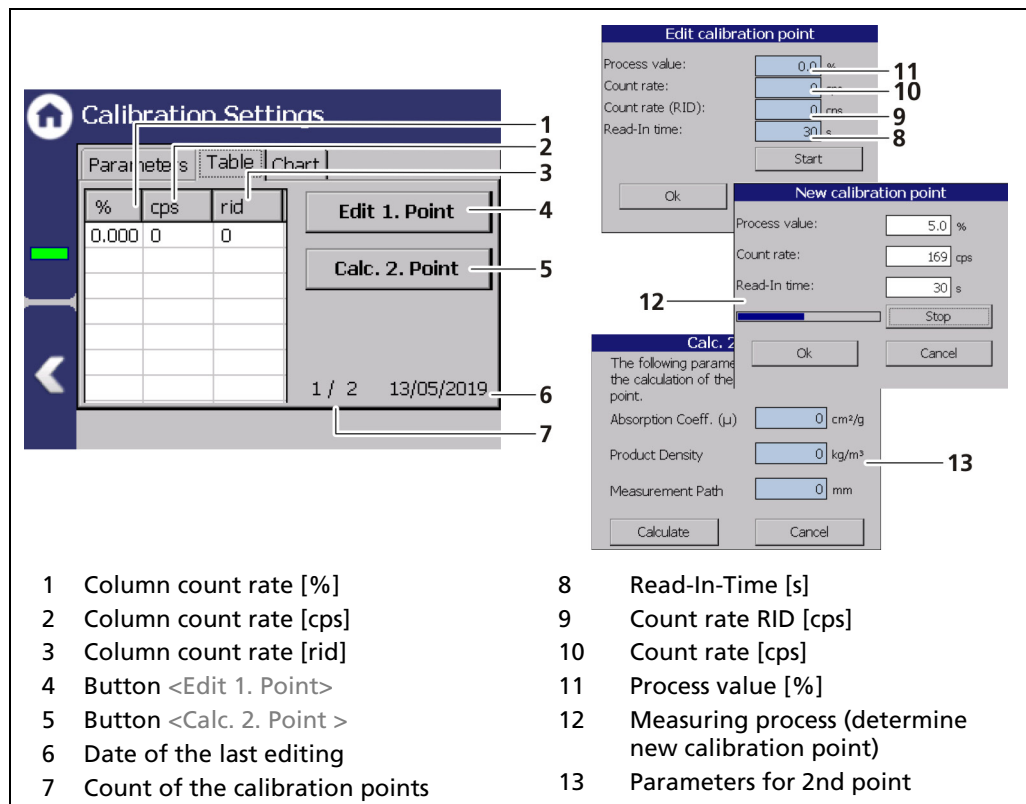

Fig. 82 Calibration Parameters (Table 1 Point Exp. calibration type)
- Click on the button <Edit 1. Point > (Fig. 82, item 2).
- The window "Edit calibration point" (Fig. 82, item 8-11) opens.
- Click on the input field "Read-In Time" (Fig. 82, item 9) to open the input field.
- Click on the input field "Process value" (Fig. 82, item 11) to open the input field.
- Click on the button <Calc. 2. Point > (Fig. 82, item 5).